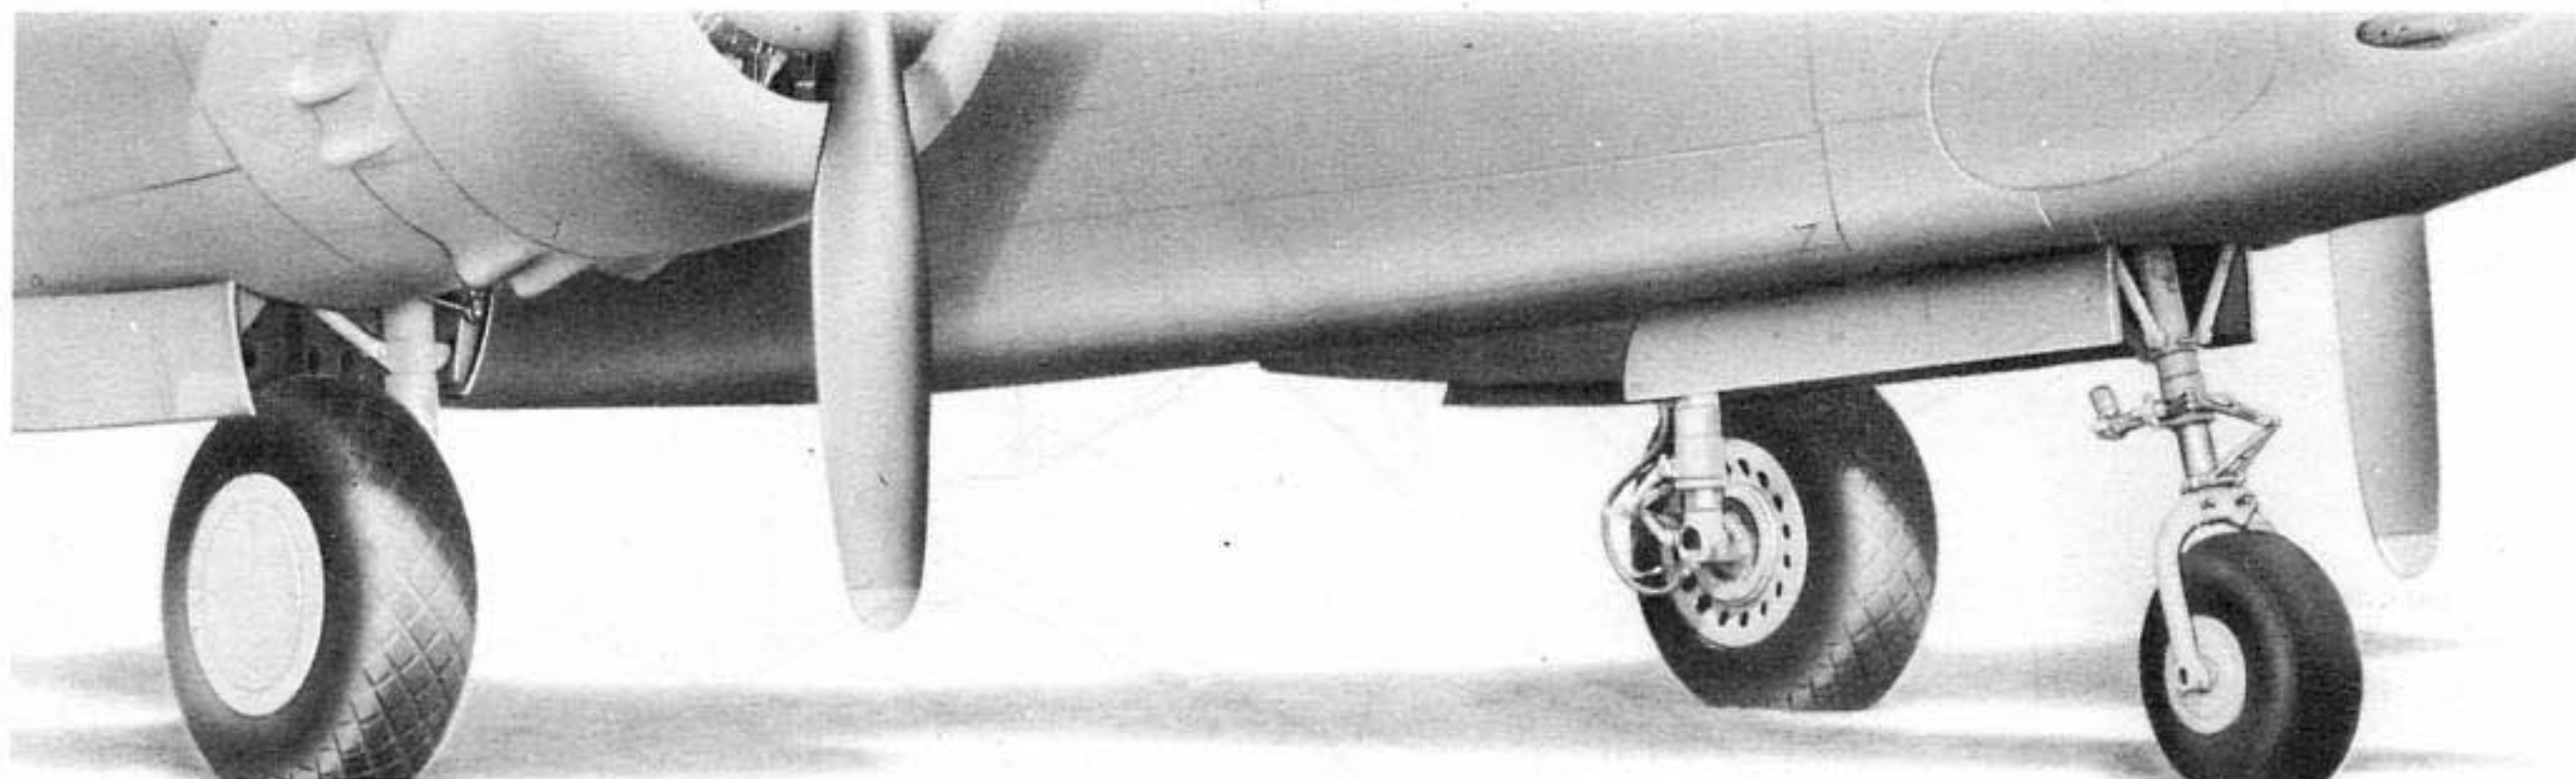

Figure 58 - ALIGHTING GEAR
(1) GENERAL. - The alighting gear consists of three separate units, a main unit mounted in each engine nacelle and a nose wheel unit mounted just aft of the fuselage Station 0. (See figure 58.) The gear is